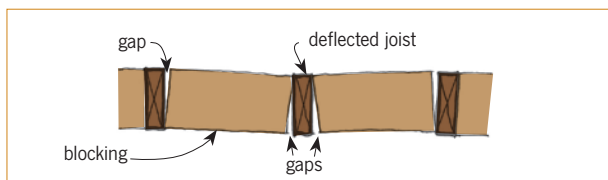

Figure 1: Deflection of subfloor framing.
2.0.5 Noise in floors can also result from deflection (more than 1 mm in 300 mm in AS/NZS 1170 *Structural design actions*) of the floor framing (see Figure 1) because of greater flexibility of 'second generation' juvenile timber that has been used more recently. Note: Amendment No 2 to NZS 3604:1999 (May 2006) may have mitigated this problem as it introduced new maximum span tables that take account of the greater flexibility of today's framing timber.